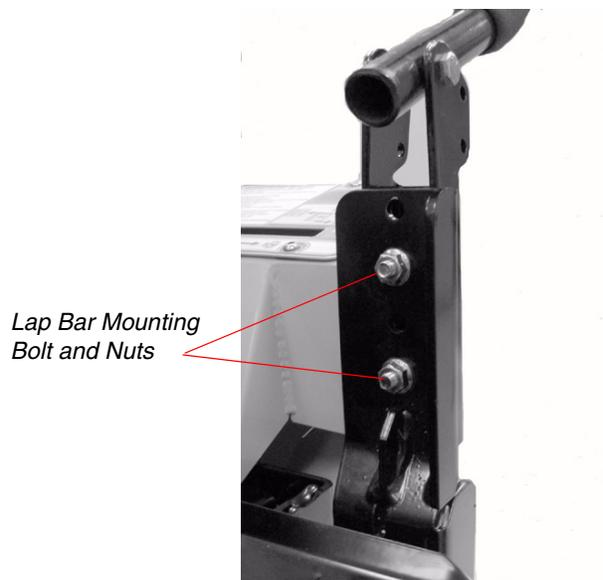

Figure. 12
- a. Remove the nuts from the lap bar mounting bolts (see Fig. 12).